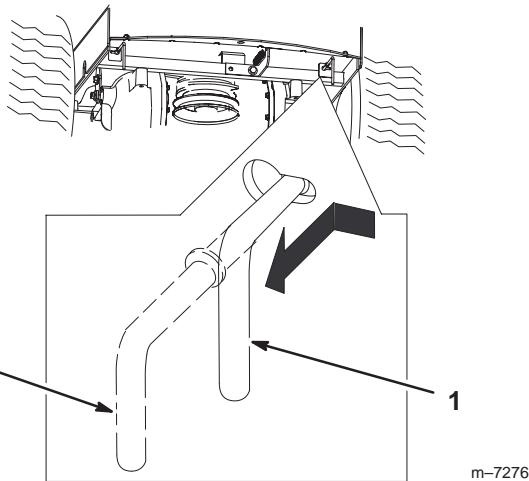

Figure 14
3. Move the two bypass levers to the inside and push them in until the washer on the rod passes through the slot (Fig. 14).
4. Push the levers toward the outside to lock them in place (Fig. 14).
Move each bypass levers to the inside and pull them rearward, completely through the slot (Fig. 14).